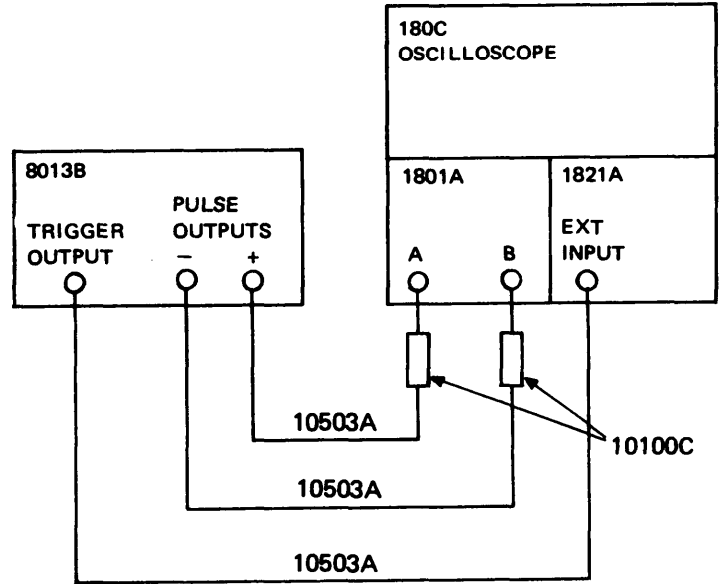

Figure 3-4. Initial control settings and test equipment
3-14 In this mode the 8013B requires no external signal to produce an output signal. Rate, delay, width, amplitudes etc. are all adjustable from the front panel controls, The initial control settings (also shown in Figure 3-1) are given to assist someone unfamiliar with the operation of the 8013B. The positive and negative pulse outputs (17) and (18) and the TRIGGER OUTPUT (21) should be connected to an oscilloscope using a 50 ohm system (as shown in Figure 3-4). The oscilloscope (an HP 180C mainframe with 1801A and 1821A plug-ins) should be set with the sweep time at $20\mu\text{s}/\text{div}$ and the sensitivity at $2\text{V}/\text{div}$.
- PULSE PERIOD ② .1m-10m
- VERNIER ③ CCW
- PULSE DOUBLE/NORM ④ NORM
- PULSE DELAY ⑤ 1μ-.1m
- VERNIER ⑥ CCW
- PULSE WIDTH ⑦ 1μ-.1m
- VERNIER ⑧ Center
- AMPLITUDE ⑨ 2.0-5.0
- VERNIER ⑩ CW
- OFFSET VERNIER ⑪ Center